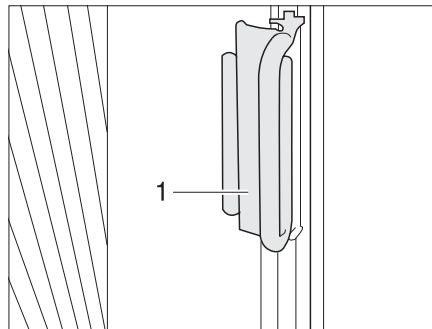

Fig. 82 Roman shade for driver's window and front passenger's window
- Grasp the handle (Fig. 82,1) of the Roman shades and draw carefully forwards until the magnetic catch keeps the Roman shades closed.
- Push the handle (Fig. 82,2) onto the upper part. The Roman shade is secured.